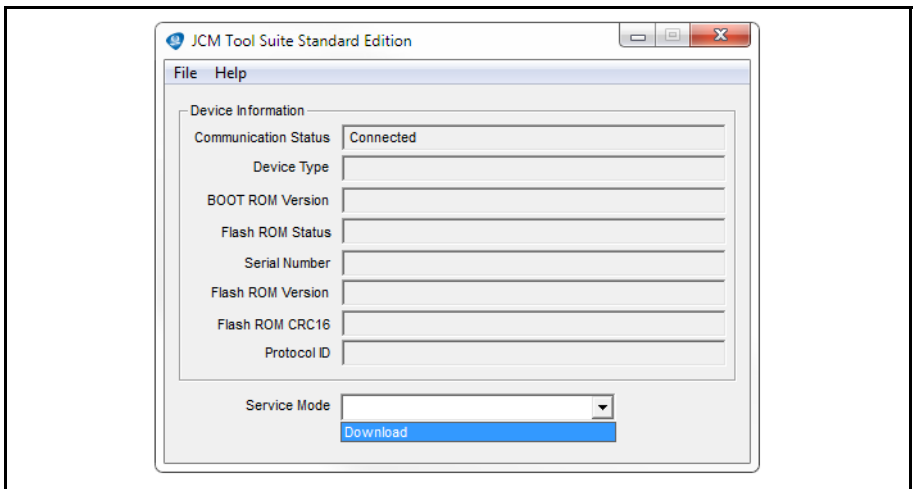

Figure 10 JCM Tool Suite Standard Edition Device Information Screen
4. Launch the JCM Tool Suite Application (Figure 10).
5. Click the Service Mode drop down menu, then click Download (Figure 10).